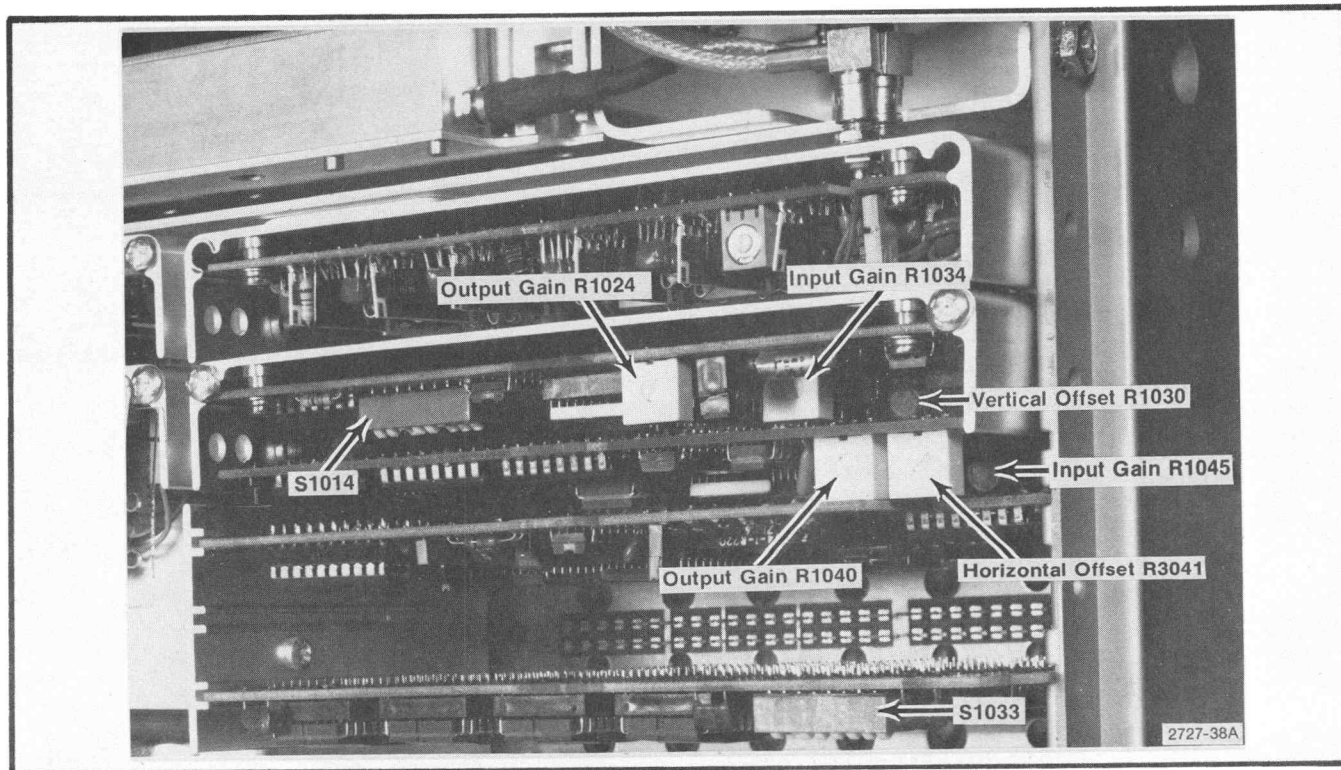

Fig. 3-47. Digital storage adjustment locations.
1. Adjust Horizontal Offset, R3041 (Fig. 3-47), so the left edge of the cursor is at the left edge of the crt (about 0.25 division over-span from the left graticule line).
2. Adjust Output Gain, R1040 (Fig. 3-47), so the right edge of the cursor is at the right edge of the crt.
3. Alternately switch the VIEW A (Digital Storage) on and off while adjusting Input Gain, R1045 (Fig. 3-47), so the storage signal at the right edge tracks with the non-store signal.
1. Output Gain (R1024 and Output Offset (R1028), if installed, are adjusted at the factory and should not be changed. If disturbed, or for any other reason, Output Gain and Output Offset must be adjusted, center these adjustments. In either case, center Input Gain (R1034) before proceeding. These adjustments are shown in Fig. 3-47 except for R1028, which is located next to R1024.
3. Using a signal near the bottom of the display, adjust Vertical Offset, R1030 (Fig. 3-47), so the stored display is the same amplitude as the non-store signal.
5. Adjust Input Gain, R1034 (Fig. 3-47), so the stored display of the high amplitude signal is the same as the non-stored display.
f. Adjust the following (Fig. 3-47) to match the step waveform as closely as possible to the graticule:
Output Offset, R1028, on the Vertical Digital Storage board (not shown on Fig. 3-47) is located beside Output Gain, R1024. Also, R3041 and R1040 may not be located as shown, but are positioned left-to-right in the same manner as shown in the figure.